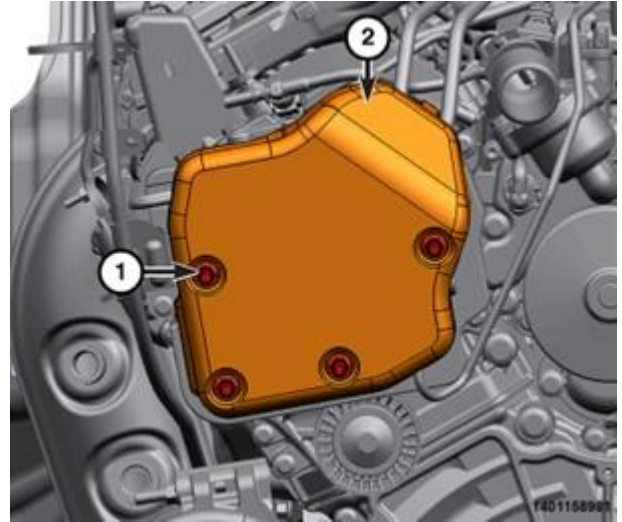

Figure 89 – Pump Blocker Shield
178. Install the fuel injection pump blocker shield (2) and tighten the bolts (1) to 25 N-m (18 ft. lbs.) (Figure 89).